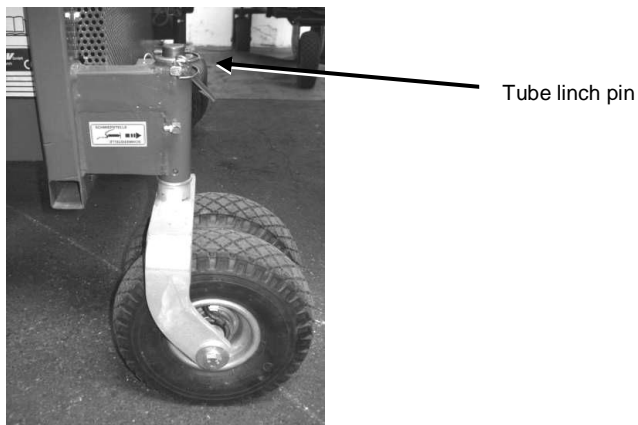

Fig. 42: Pivot wheel
1. Turn the pivot wheels to the rear and secure them with the tube linch pins (see Fig. 42).